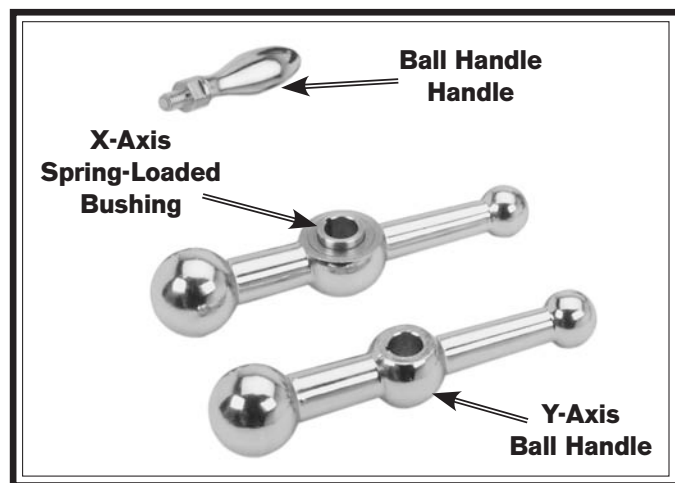

Figure 9. Ball handle assemblies.
The ball handles for either end of the X-axis leadscrew have spring-loaded, keyed center bushings, as shown in **Figure 9**. This allows them to disengage from the leadscrew when using the power feed, avoiding an entanglement hazard.
2. Identify the two ball handles with the spring-loaded center bushings (see **Figure 9**).
6. Align the keyway of the remaining ball handle with the leadscrew key, slide the Y-axis ball handle (see **Figure 9**) onto the leadscrew, then secure it in place with the removed hex nut.